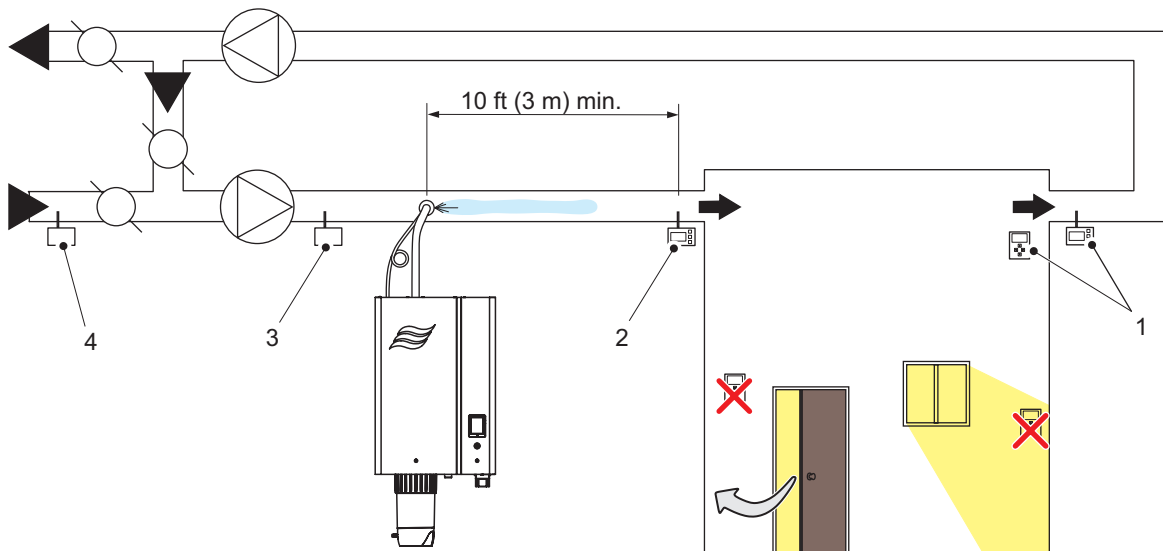

Figure 24: Duct Humidity Control Location
When using the supply air duct for steam distribution, Condair highly recommends the use of an air proving switch and a high limit humidistat in addition to a humidity controller. Environments with exterior walls should also consider using an outdoor temperature sensor in the system. Refer to Figure 24.
- ☐ The distance between the steam distributor and the Condair duct humidistat or transducer should be minimum 10 ft (3 m), or greater than the calculated absorption distance. Refer to Figure 24 on page 43.